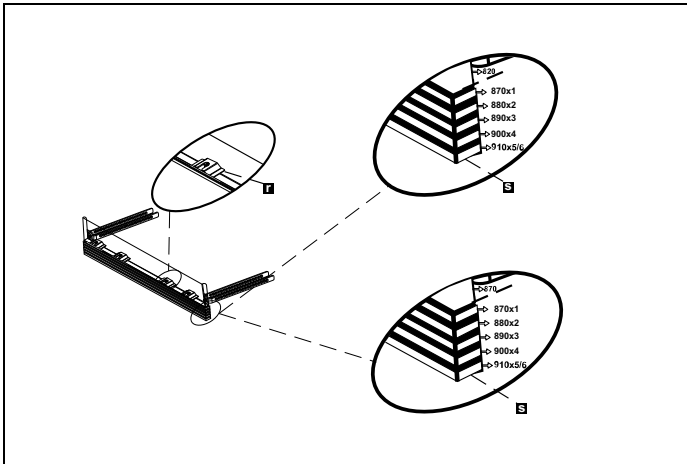

Fig. 20
- 3) As shown in Fig. 20, the cylindrical feet of the adjustable toe kick are attached to the toe kick fixing metal parts and inserted through the cavity of the part.